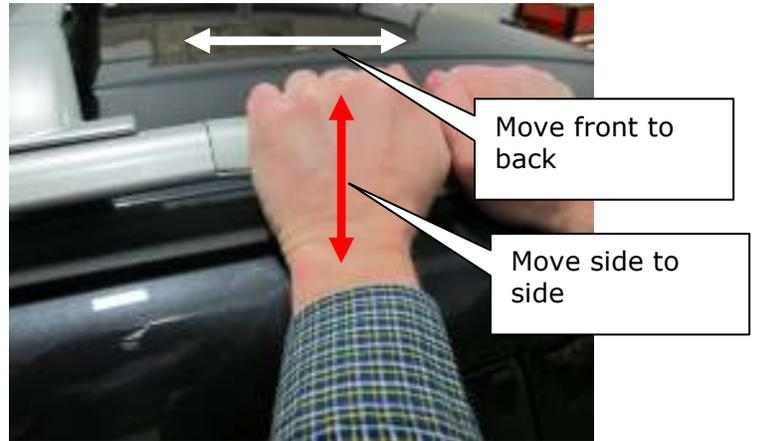

Figure 1
1. Attempt to move or twist roof rail end cover using mild force as shown in Figures 1 and 2.